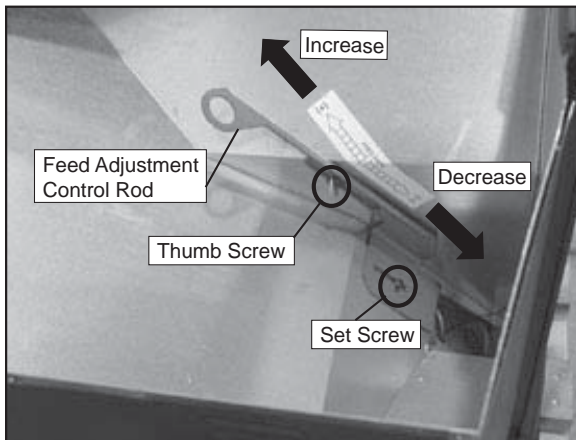

Figure 9.1
1. Loosen the set screw 1/4 to 1/2 turn during set-up of appliance. This will allow movement of the feed adjustment control rod. Do not re-tighten set screw. **Figure 9.1**